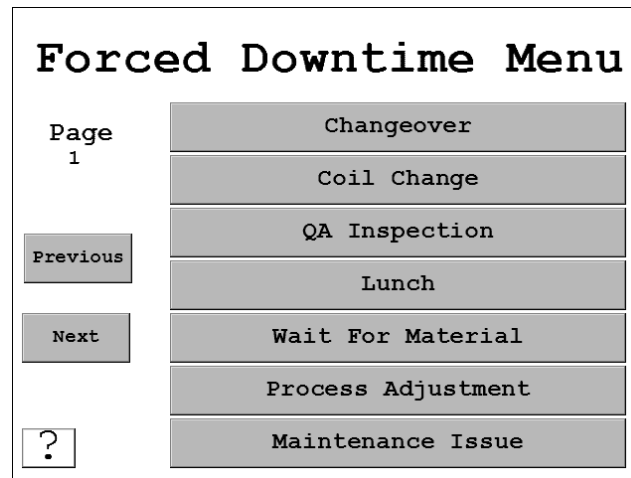

Figure 2-10. Forced Downtime Menu Screen
The machine inhibit circuit prevents the machine from being restarted after the interval programmed for the Forced Dialog Timer has elapsed and the Forced Downtime Menu screen (Figure 2-10, page 39) has displayed. To check the wiring connections for this circuit, do the following:
- If your machine inhibit output wiring is correct, you should be unable to restart the machine after 30 seconds have elapsed and the Forced Downtime Menu screen, Figure 2-10 has displayed.